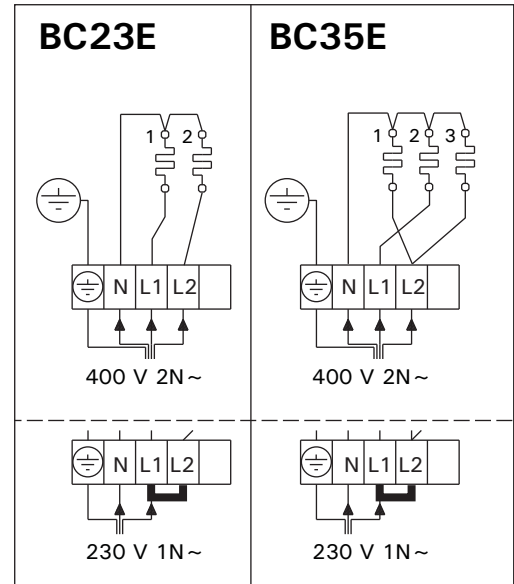

Figure 10. Electrical connections of heater BC-E
- In addition to supply connectors, the BC heaters are equipped with a connector (P), which makes the control of the electric heating possible (figure 10). Voltage control is transmitted from the heater when it is switched on. The control cable for electrical heating is brought directly into the junction box of the heater, and from there to the terminal block of the heater along a rubber cable with the same cross-section area as that of the connecting cable.